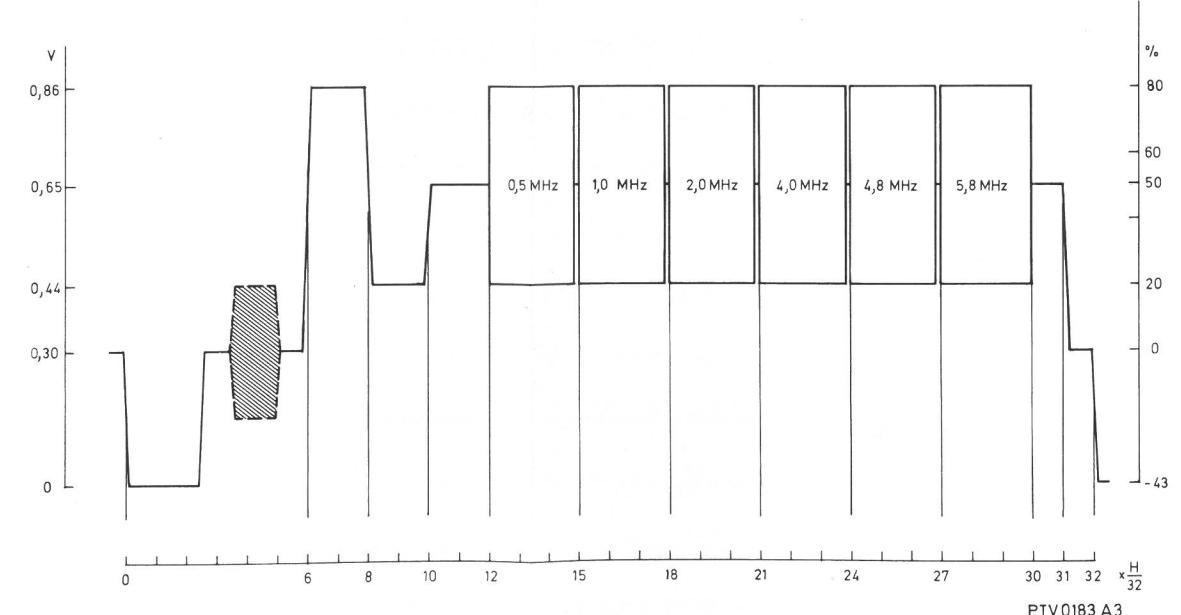

Fig. 3-2 Line 18 signal
2. (B) Line 18 signal (See also fig. 3-2)